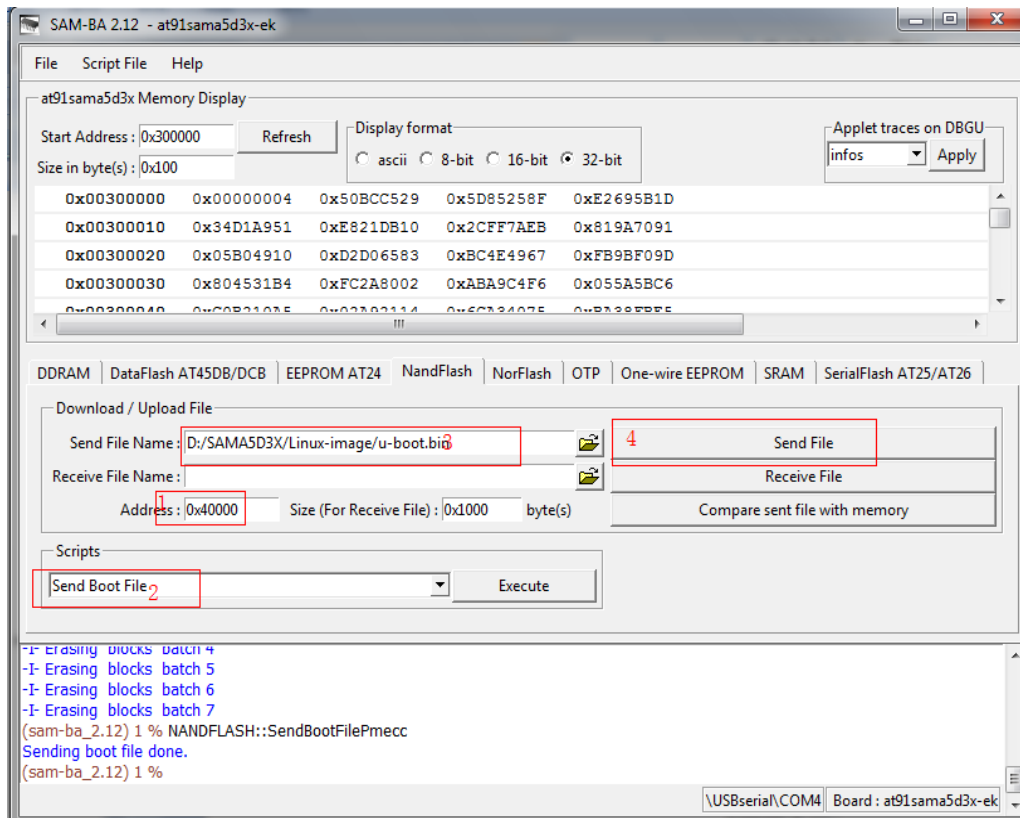

Figure 3-12
- ⑤ Download [u-boot. bin] to 0x40000. Refer to figure 3-12: